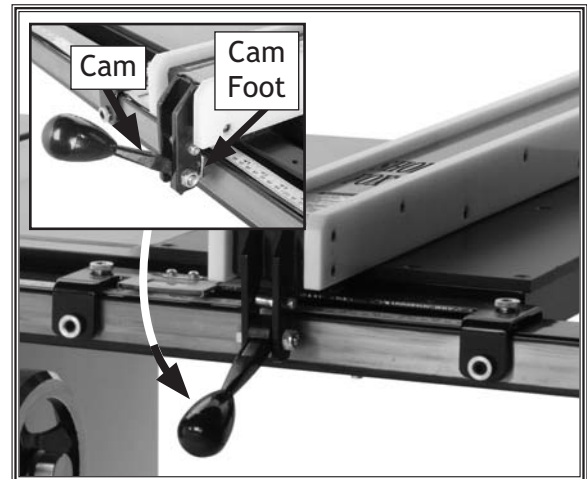

Figure 25. Fence installed on rails.
2. Place the fence on the rails on the right hand side of the blade (see **Figure 25**).